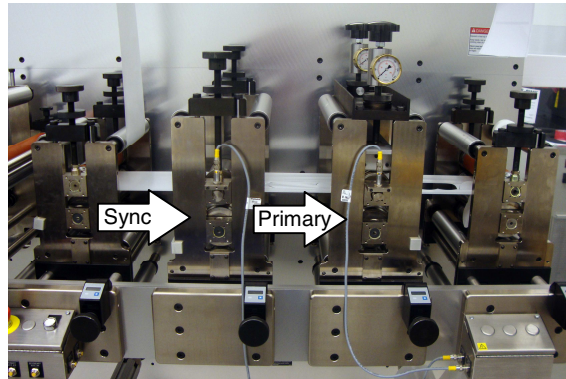

Figure 1
2. The first, usually leftmost, die is the Sync/Secondary axis (Figure 1). The second die or Primary axis is then used to adjust to the Sync axis.